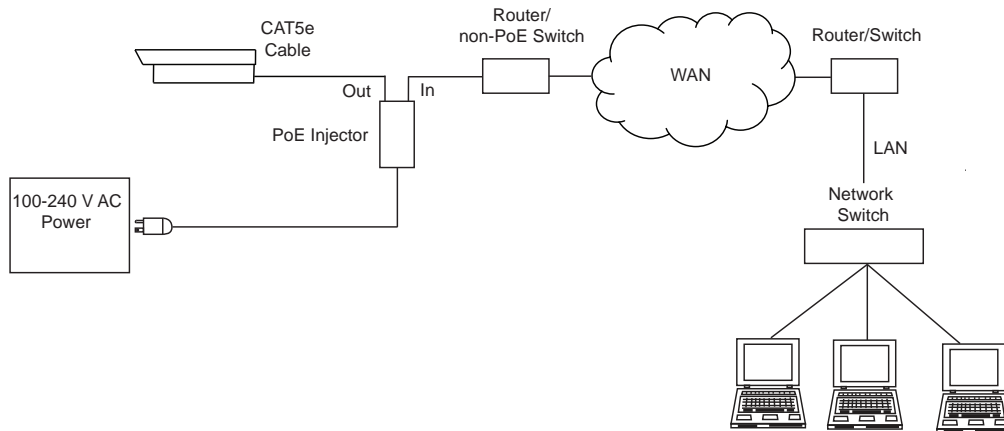

Figure 13. Interconnection Diagram with non-PoE Switch
- Figure 13 shows a typical set up interconnection diagram for the Camera using the PoE injector with non-PoE switch.